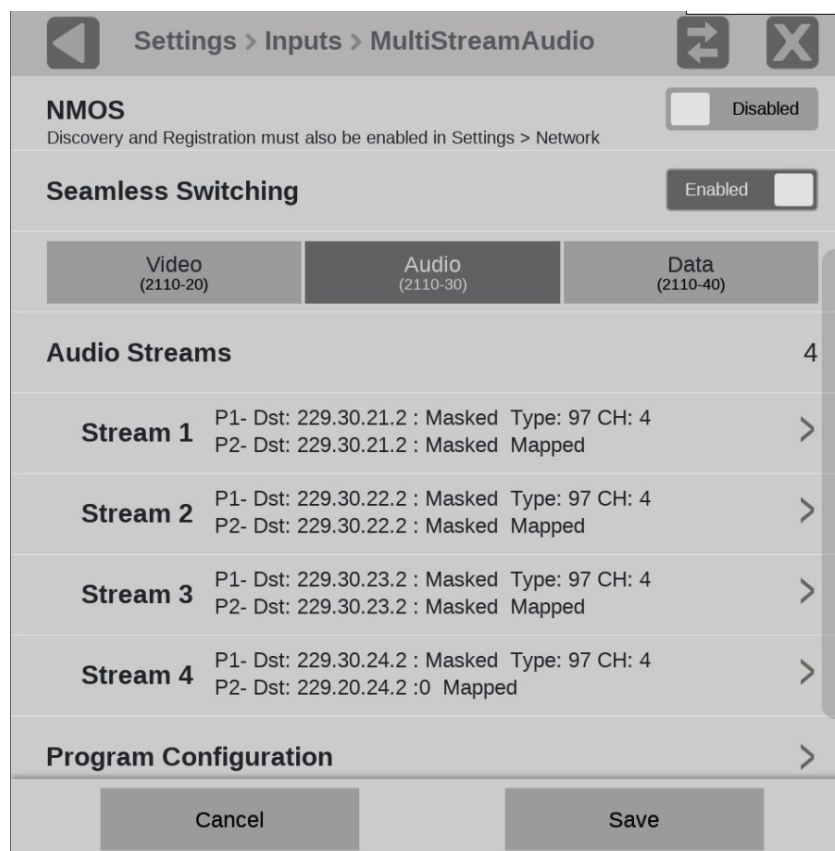

Figure 39: Select an ST2110-30 audio stream
- b. Select the stream to configure (1-4). (See Figure 39.)